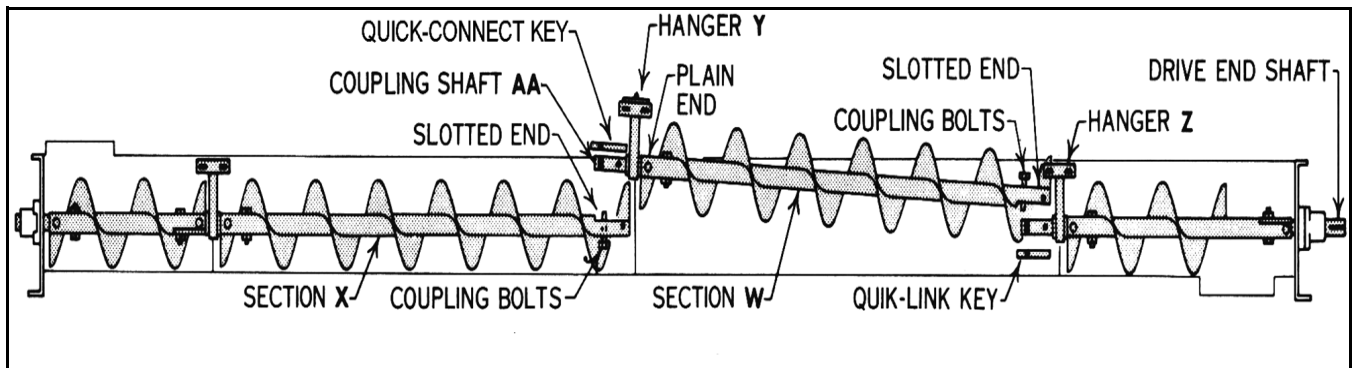

Figure 5.1 Removal of Quick-Connect Conveyor Screw
1. Removal of quick-connect screw sections includes removal of coupling shaft AA and hanger Y at plain end. See Figure 5.1 where section W is being removed.